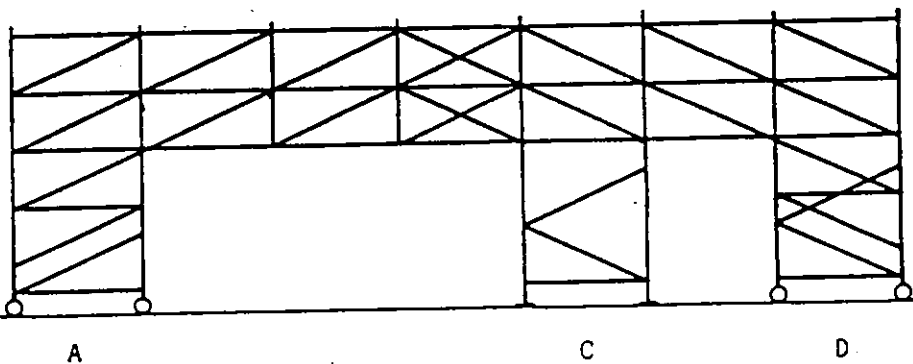

Fig.4
- d. Erect tower (D) using the base from (B) replacing the base plate with castors. Connect to (C). See Fig 4